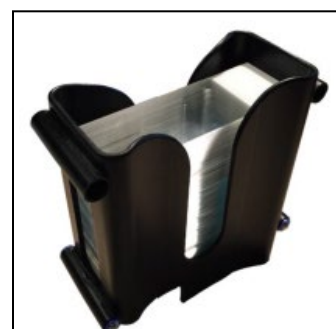

Figure 4.3: Slide hopper orientation
- Ensure all slides are seated flat and aligned properly within the hopper (**Fig 4.3**).